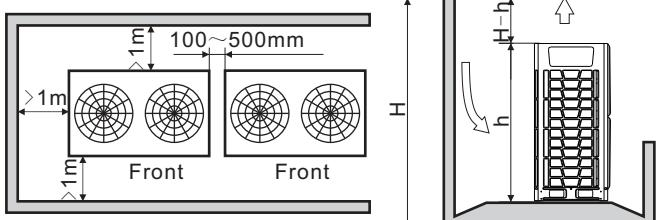

Fig. 3.14 Lower than surrounding barriers
6) When outdoor units are lower than surrounding barriers, please see Fig. 3.14; the arrangement is similar with the situation when outdoor units are higher than surrounding barriers, but to prevent the thermal exchange effect is influenced by outdoor hot air, a wind scooper shall be equipped to radiating cover of the outdoor unit, as shown in Fig. 3.14. The height of wind scooper is H-h, and the scooper shall be made by the user in the field.